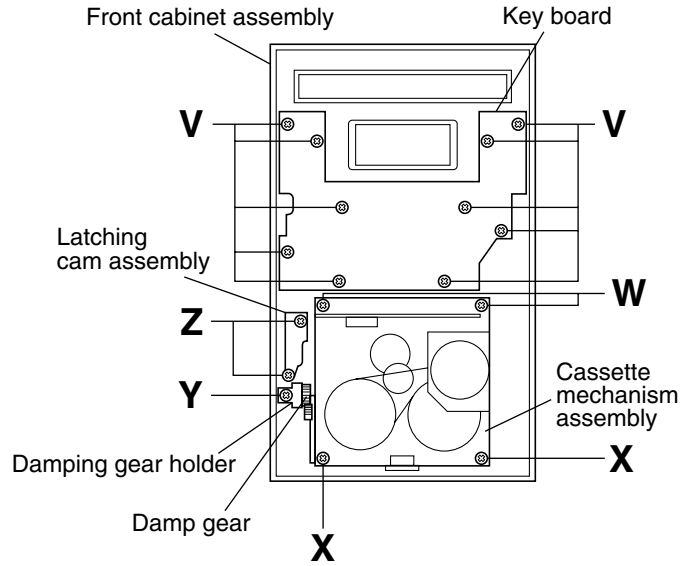

Fig.20
■ Removing the key board (See Fig. 20.)
■ Removing the cassette mechanism assembly (See Fig.20.)
■ Removing the damp gear (See Fig. 20.)
■ Removing the latching cam assembly (See Fig.20.)